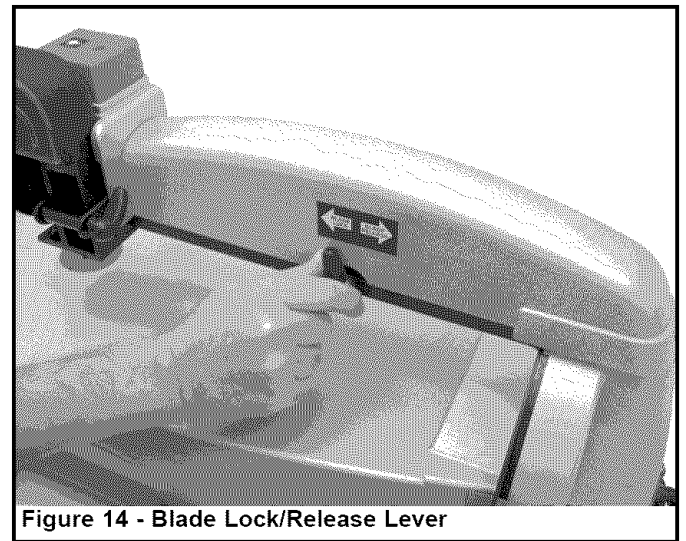

Figure 14 - Blade Lock/Release Lever
Refer to Figure 14.
Refer to Figures 14, 15 and 16, pages 7 and 8.
- Remove table insert. Release blade tension by pushing lock/release lever backwards (see Figure 14).